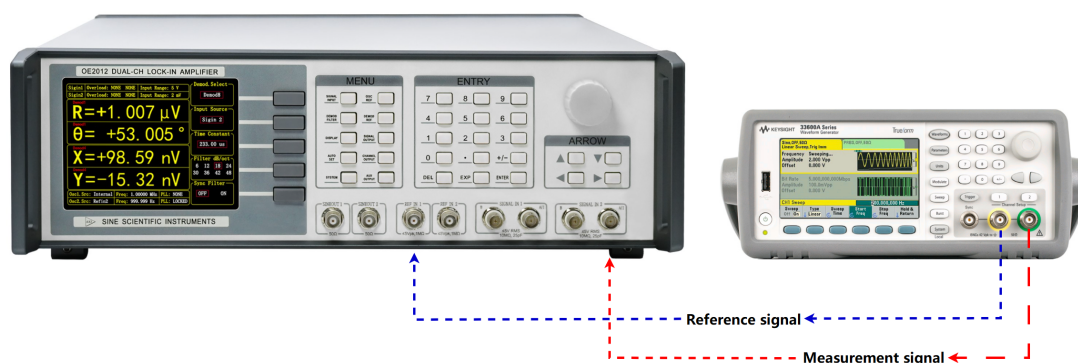

Figure 100. Signal Cable Connection Diagram
2. Use a signal cable with BNC connectors to connect the output connector of the function generator to the IN+ connector of SIGNAL IN 1 on the front panel of the OE2012. Use another BNC signal cable to connect the reference signal connector of the function generator to the REF IN 1 connector on the front panel, as shown in Figure 100.